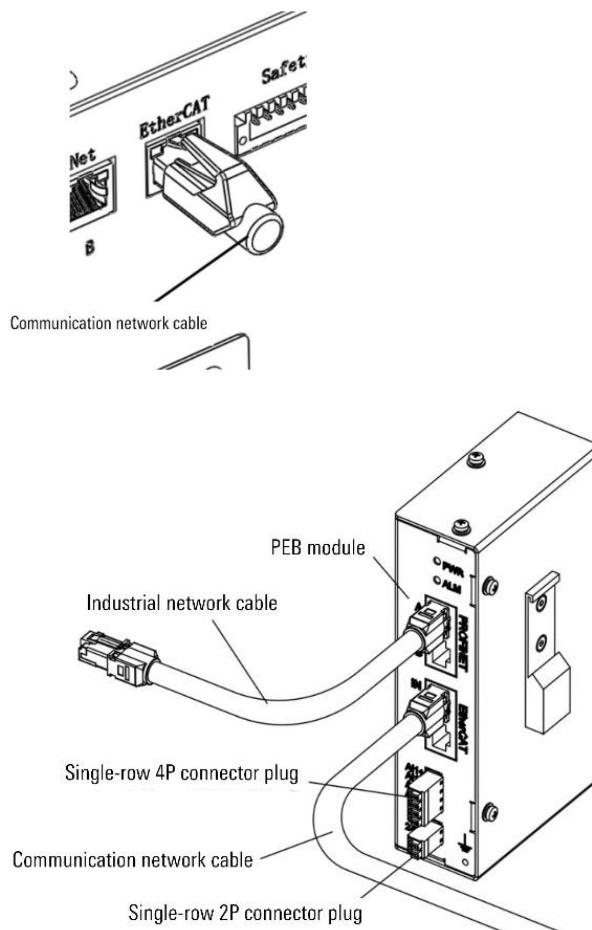

Figure 15-5 PEB module wiring
Step3. According to actual needs, use a communication network cable to connect the Ethercat interface of the control cabinet (the control cabinet corresponds to the Ethercat interface) and the EtherCAT-IN interface of the PEB module; use an industrial network cable to connect the Profinet-A interface of the PEB module and the PLC device, refer to Figure 15-5.